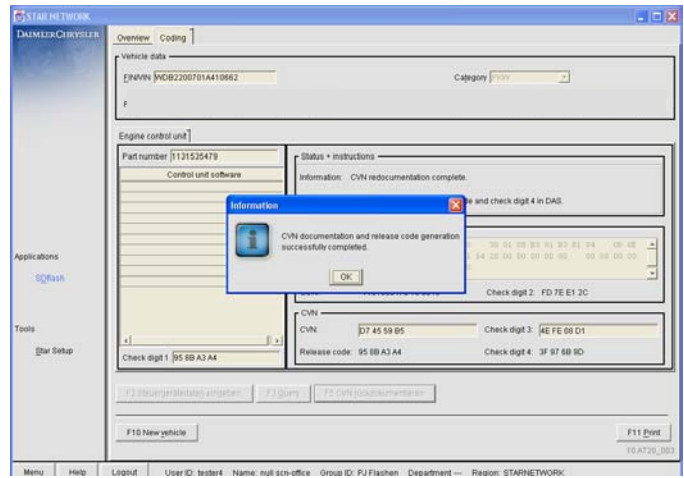

Figure 16
- Click the 'OK' Button. The Release Code and Check Digit [4] will be displayed. (Figure 16)
- Press 'F11 Print' Button to Print the Release Code and Check Digit [4]. (Figure 16)